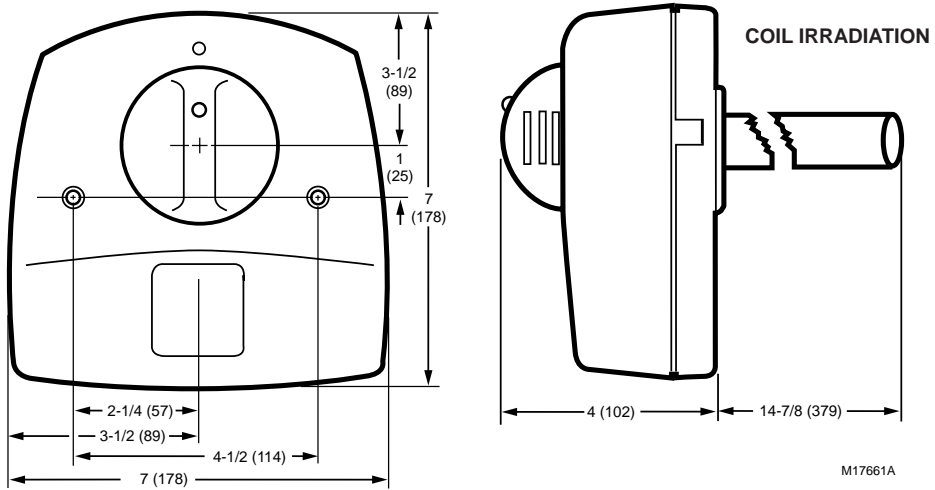

Fig. 2. Ultraviolet Coil Irradiation Air Treatment System dimensions in in. (mm).
Dimensions: See Fig. 2.
See Fig. 2.
3. Allow clearance in front of the device for removing the lamp assemblies. See Fig. 2 for lamp assembly lengths.
- b. The duct mounting location must be a minimum of 8 in. wide. See Fig. 2.
- c. The depth of the duct must accommodate the full length of the ultraviolet lamp as shown in Fig. 2.